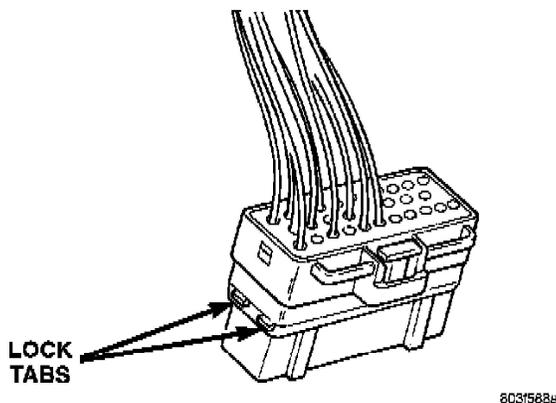

FIGURE 5 - Lock Tab
2. Push in the two lock tabs on the side of the connector (Figure 5).
12. Push in the single lock tab on the side of the connector (Figure 5).